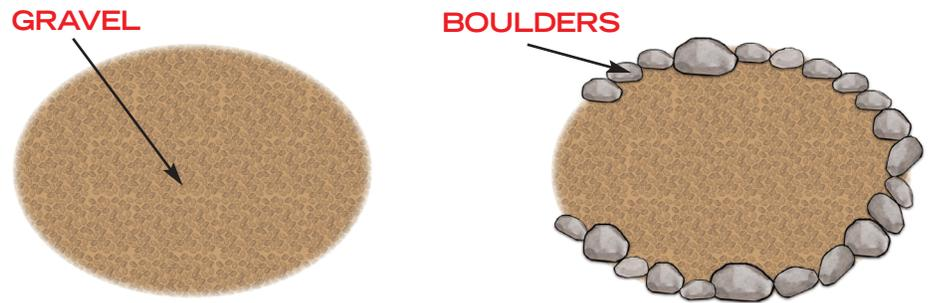

Figure 14
14. Place a series of stones around the perimeter of the filter, to cover the liner that's above the normal operating water level. (Figure 14)